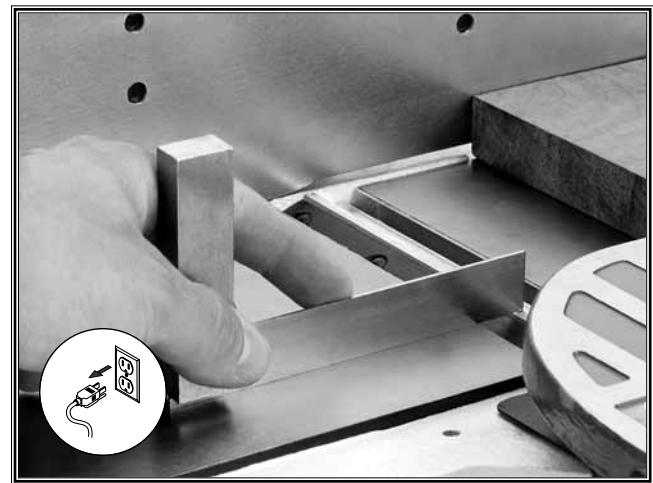

Figure 26. Checking the blade height.
5. At both ends of the cutterhead, the straightedge must just make contact with the blade (**Figure 26**). *Watch and make sure the straightedge is not lifted from the outfeed table surface when contact is made with the cutterhead blades.*